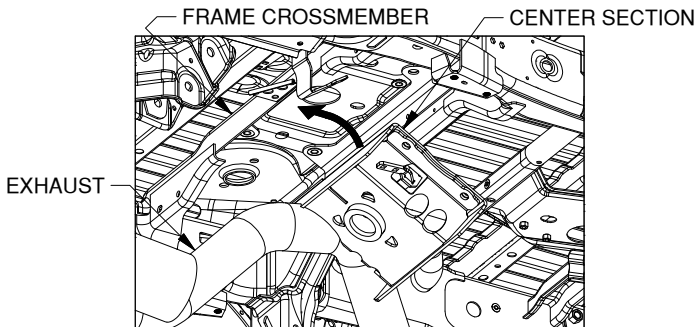

Figure B5: Looking up at the bed from foward of driver side tire.
3. **Install the center section.** With the latch pin mechanism on the drivers side, raise the center section into place as shown, see Figure B5. In order to clear structures under the truck bed, the center will have to be lifted into place on an angle over the exhaust, then positioned directly under the frame cross member so that the raised portion of the center can be pushed straight up through the hole in the frame cross member, and through the hole in the plastic spacer block. Having assistance in the bed to guide the top of the center section is recommended. Line the 4 holes in the center section up with the frame holes and the holes in the fastener handles. Thread a 5/8" flange head bolt into each hole.